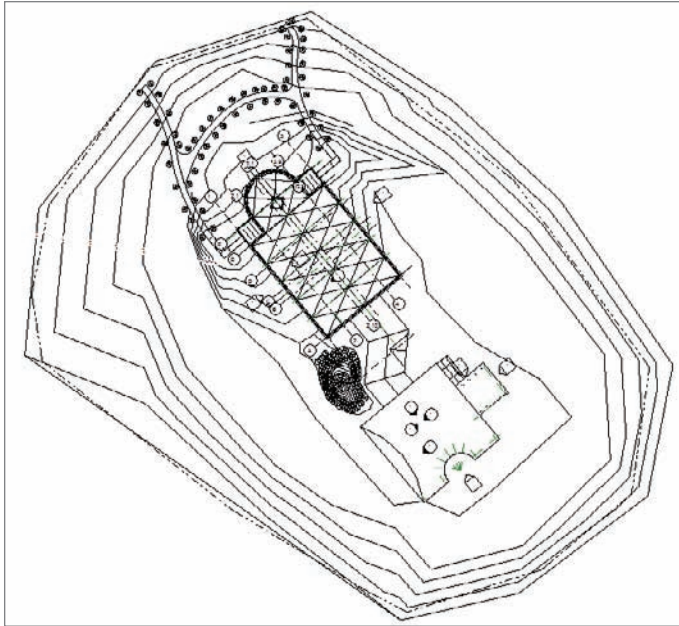

FIGURE 18.31 The site rotated to true north
5. Go to the Level 1 floor plan; the site will still be oriented to Project North while the site plan is of a different orientation. Of course, now this mind-set makes the North Wing and the East Wing nomenclature irrelevant to the actual orientation of the site (see Figures 18.31 and 18.32).